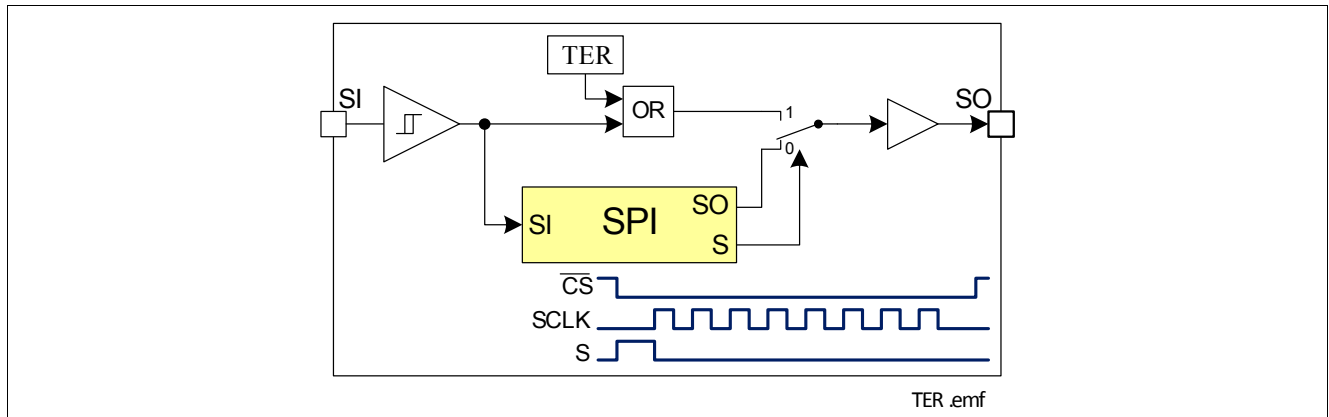

Figure 11 Transmission Error Flag on SO Line
- SO changes from high impedance state to high or low state depending on the logic OR combination between the transmission error flag ($\overline{\text{TER}}$) and the signal level at pin SI. As a result, even in daisy chain configuration, a high signal indicates a faulty transmission. The transmission error flag is set after any kind of reset, so a reset between two SPI commands is indicated. For details, please refer to Figure 11. This information stays available to the first rising edge of SCLK.